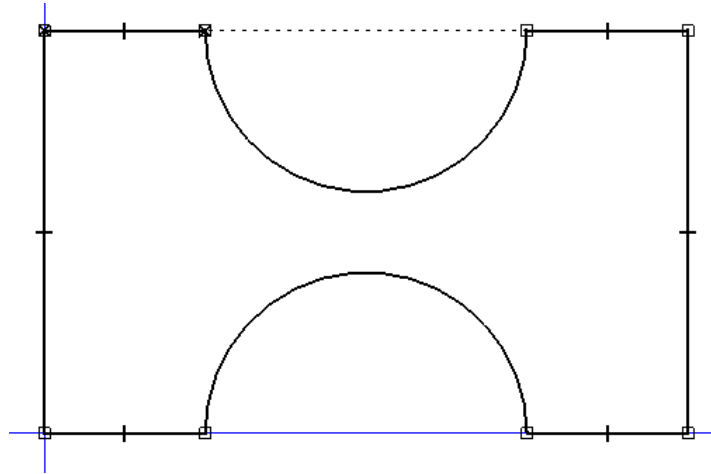

Figure 2-33 Final profile for Tutorial 2
17. Click to define the endpoint of this line when the endpoint relationship handle is displayed. The final profile of the model is shown in Figure 2-33.